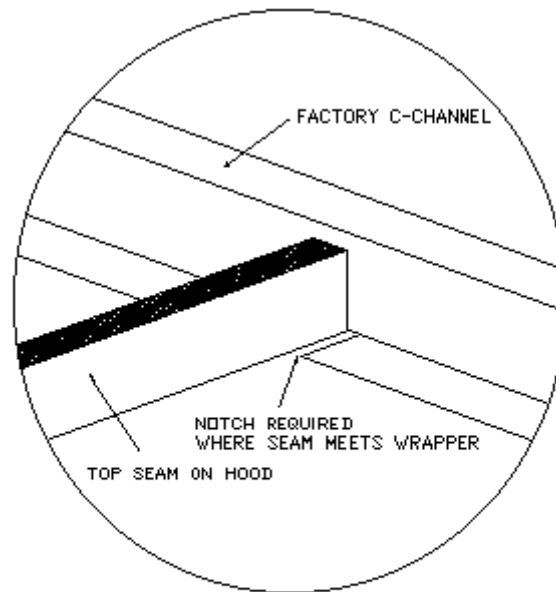

FIG. 3 TOP HOOD SEAM DETAIL
- C. Install end to end mating clips and back to back mating clips. Run a bead of caulk along the seam to be covered and slip the mating clip into position as shown in figures 3 & 4.
Note: A notch will have to be cut on the wrapper flange using shears (tin snips) where interference occurs. (Fig. 3)